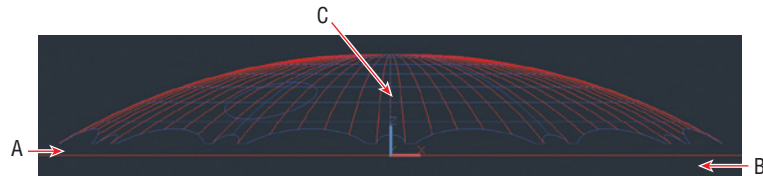

FIGURE 17.13 Selecting lines on the ground in the Front view for deletion
18. Click the Front arrow below the ViewCube. Type **E** (for Erase), and click points A, B, and C in Figure 17.13 to select all the lines on the ground and one in the center. Press Enter to erase the selection.